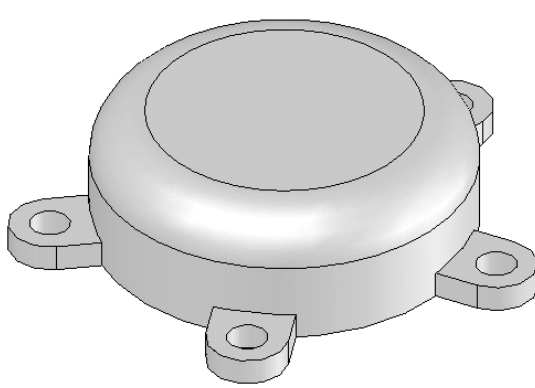

Figure 9-69 Pattern feature added to the model
- Pattern the extrude feature using the **Circular Pattern** tool, refer to Figure 9-69.
The model, after creating the pattern feature, is displayed in Figure 9-69.